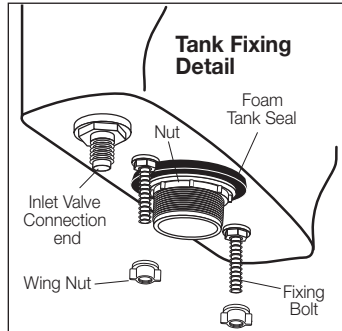

Fig. 8
- 1- Ensure the foam seal is fitted onto the tail piece on the underside of the tank as detailed in **Fig. 8**.